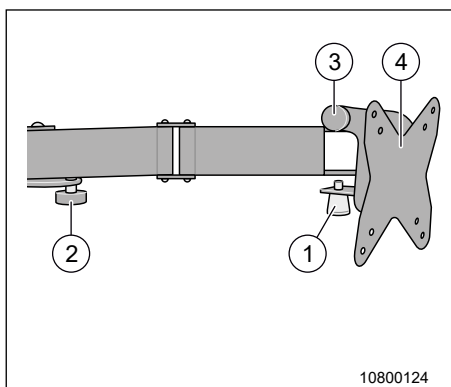

Fig. 32 TV holder
1. Pull the locking knob (Fig. 32 Pos. 1) downwards and hold in place.
3. Loosen the fastening screw (Fig. 32, Pos. 3) and swivel the flat screen upwards or downwards.
4. Using fastening screws (Fig. 32, Pos. 2 and 3), secure the TV holder.